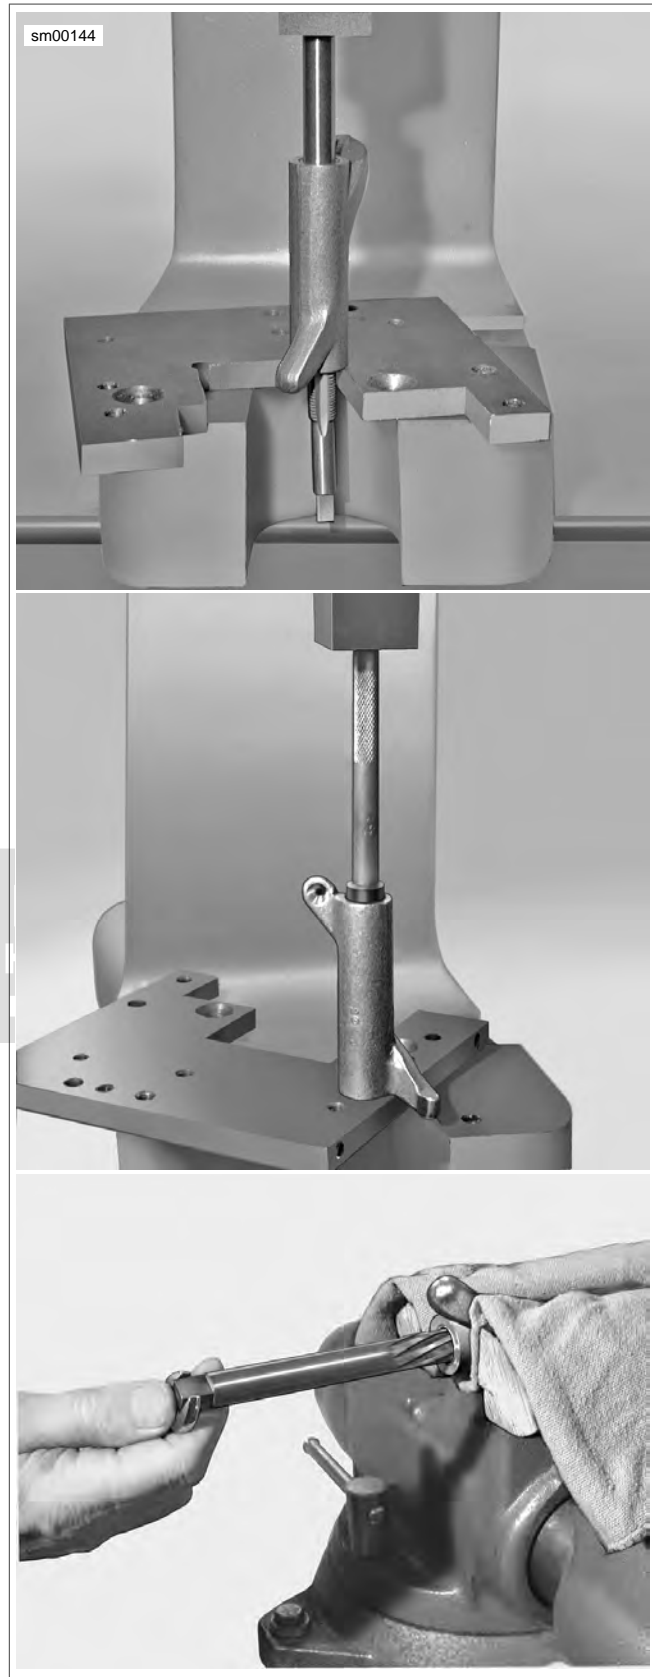

Figure 3-55. Replacing Rocker Arm Bushings
1. See Figure 3-55. To replace worn bushings, press or drive them from the rocker arm.